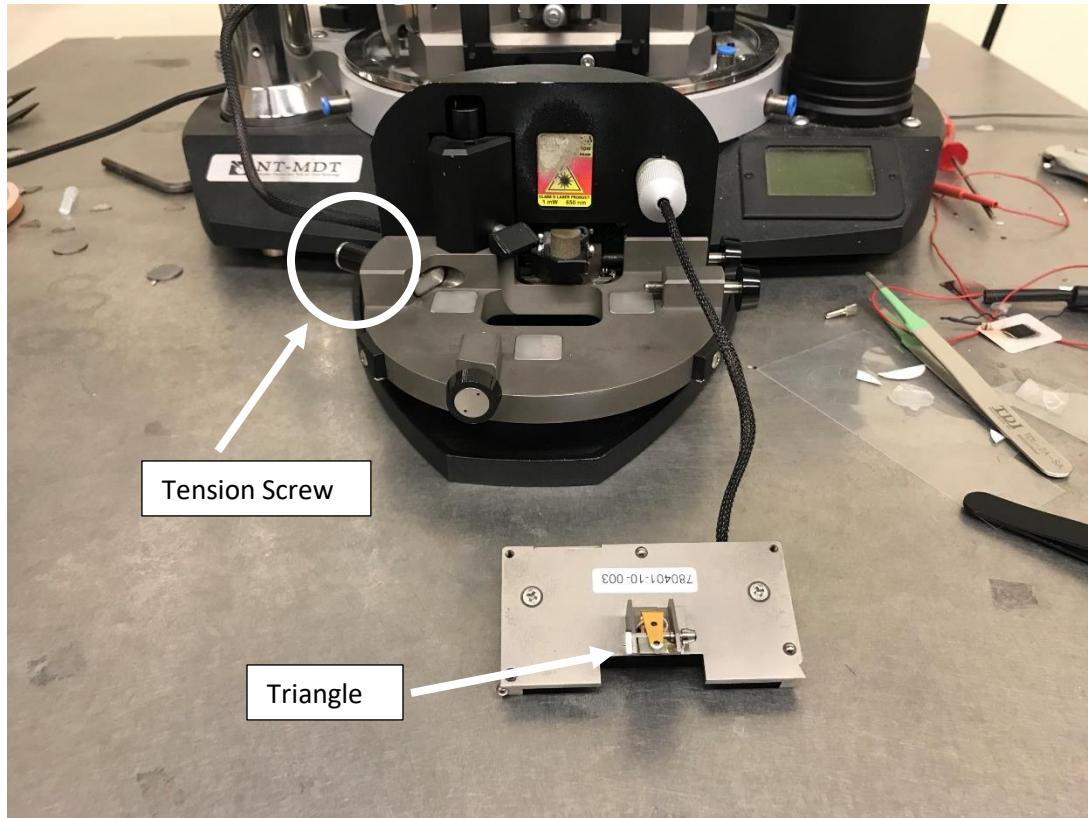

Figure 3: Preparing probe holder for probe
- Loosen the tension screw on the probe holder and place the probe holder on the table probe side up (Figure 3).
- Release the probe retention clip by rotating the triangle on the side of the AFM head (Figure 3).